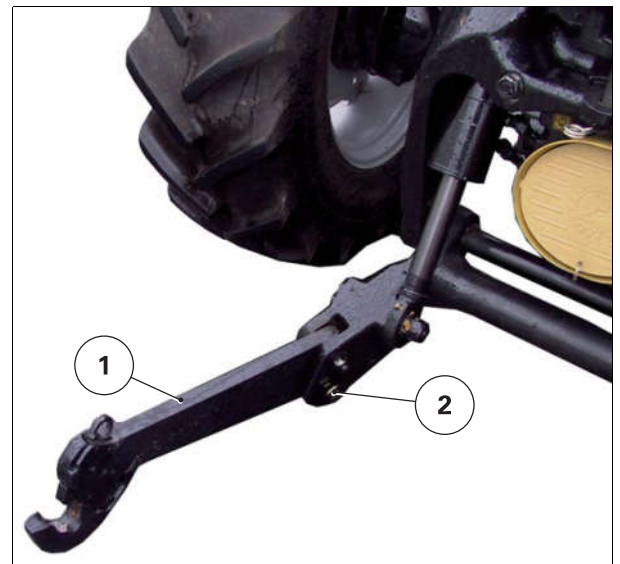

Fig. 7.
To use the front linkage, unfold the linkage arms (1) fig. 6 fig. 7 by removing the pin (2) fig. 6 fig. 7 and then refit the pin in place.